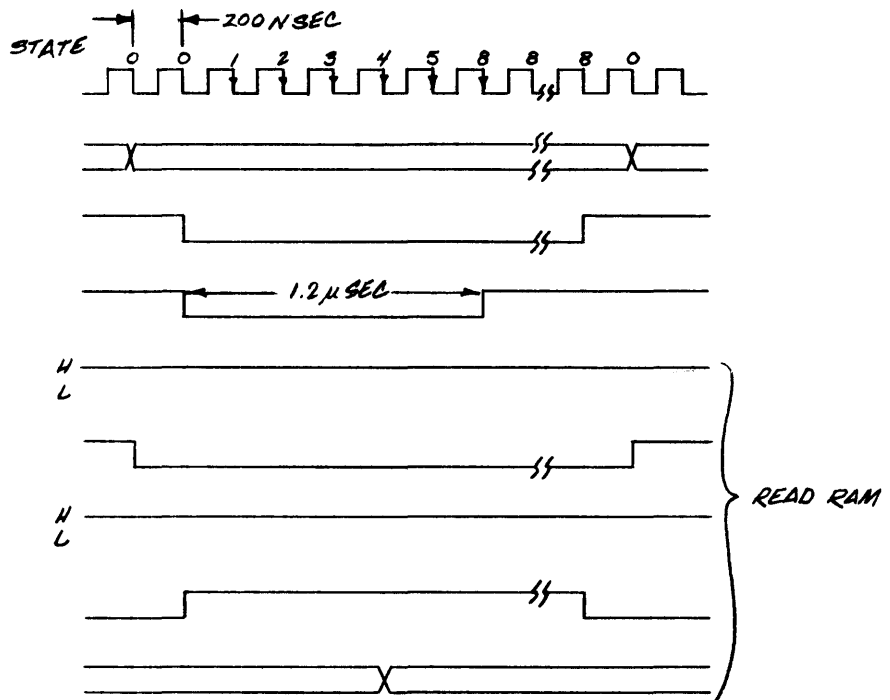

Figure 4
3.5.3 RAM READ. The SYS CLK, $\overline{\text{I/O}}$, $\overline{\text{REQ}}$, $\overline{\text{WRITE}}$, and RAM SEL signals enable the 93L10 counter, U32. The generated $\overline{\text{WAIT}}$, RAM OUT CLK, RAM ENABLE, and READ/WRITE signals are detailed in the RAM read timing diagram in figure 4. When the RAM SEL signal is decoded and $\overline{\text{I/O}}$ is high, the RAM is enabled by the RAM ENABLE signal. READ/WRITE stays high throughout the entire cycle. The counter advances to the states labeled in figure 4 on the clock edges indicated by arrows. On the sixth clock, the counter is preset to State 8, which terminates the $\overline{\text{WAIT}}$ signal. By then, the RAM data BUS0 through BUS7 is valid. When $\overline{\text{REQ}}$ goes high, RAM OUT CLK is terminated and RAM bus gates are disabled.